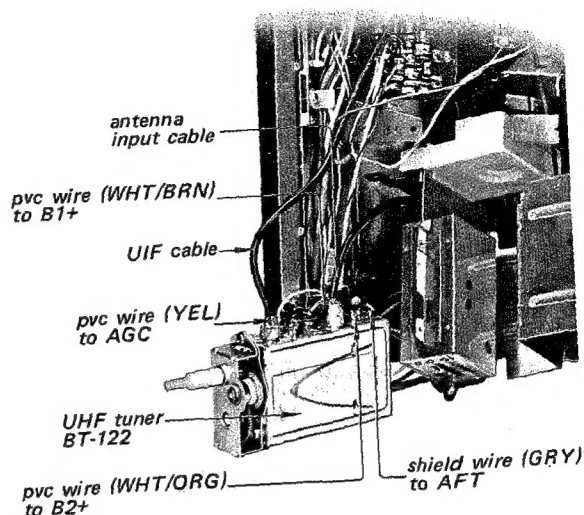

Fig. 2-13.
5. Unsolder the following leads as shown in Fig. 2-13.